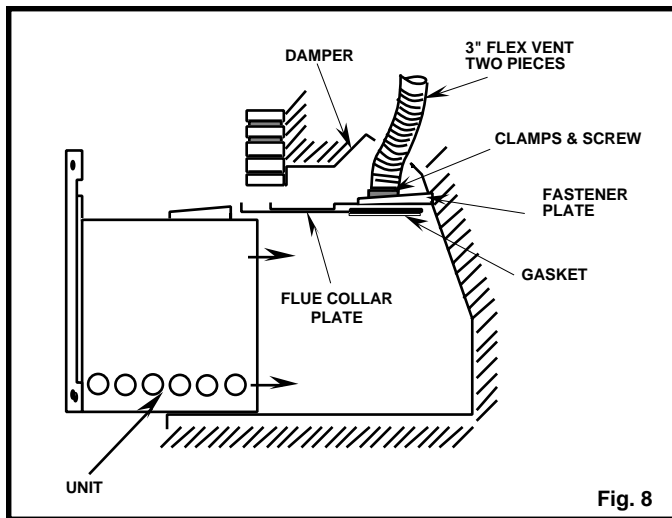
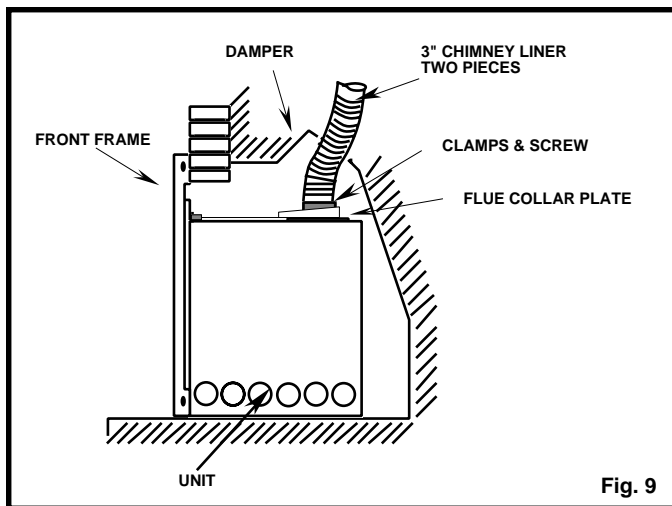

Fig. 8
Fig. 9
2. Apply a bead of hi-temp sealant on the end of the collar before attaching the liner to the flue collar. Fasten it with two clamps then adjust fastener plate all the way to the back before sliding flue gas plate back onto the unit. (See Fig. 8 and Fig. 9).